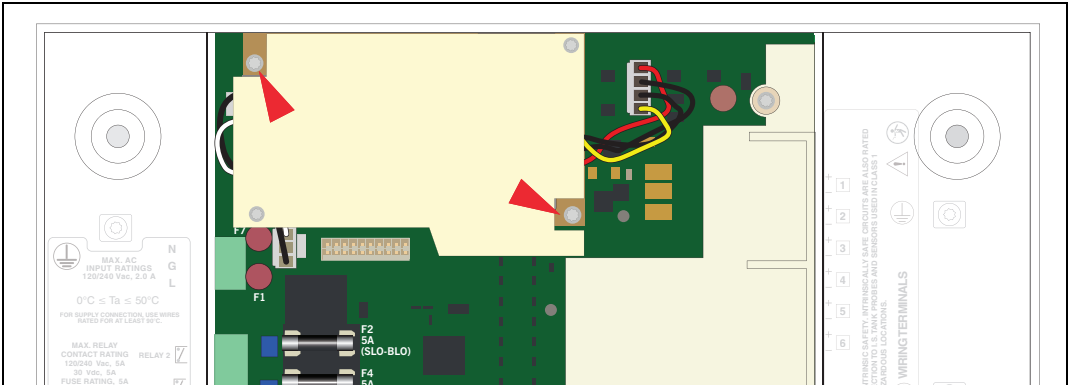

Figure 9. Remove Two Corner T10 Screws From Power Supply Board
6. Remove the two T10 #4 x 0.625 screws from the opposite corners of the power supply board and set them aside (see Figure 9).